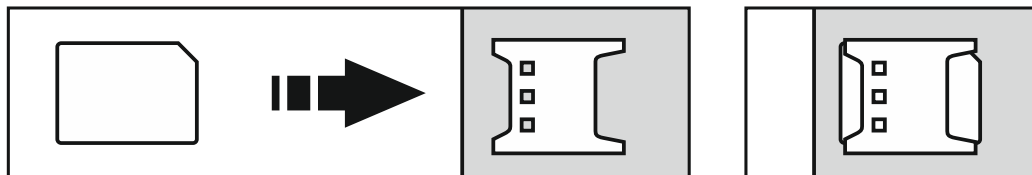

Fig. 7. Installing the nano-SIM card.
3. Insert the SIM card / cards into the socket / sockets (Fig. 7).